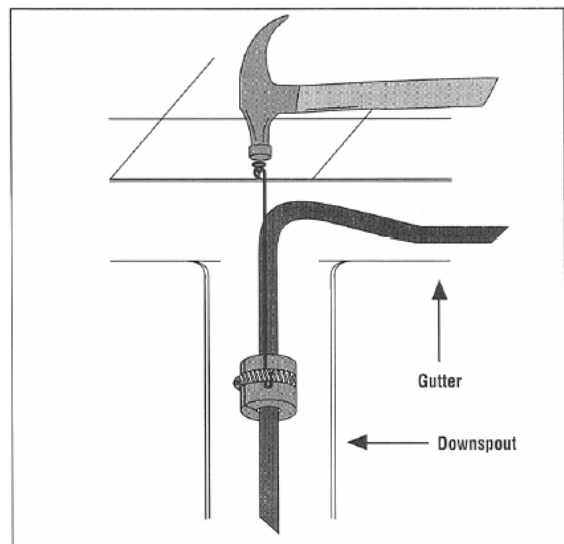

Figure 4
4. Attach the hanger assembly to the roof by driving a roofing nail or screw through the looped end of the hanger. Apply water sealing material around each nail/screw to prevent water leakage. See Figure 4.